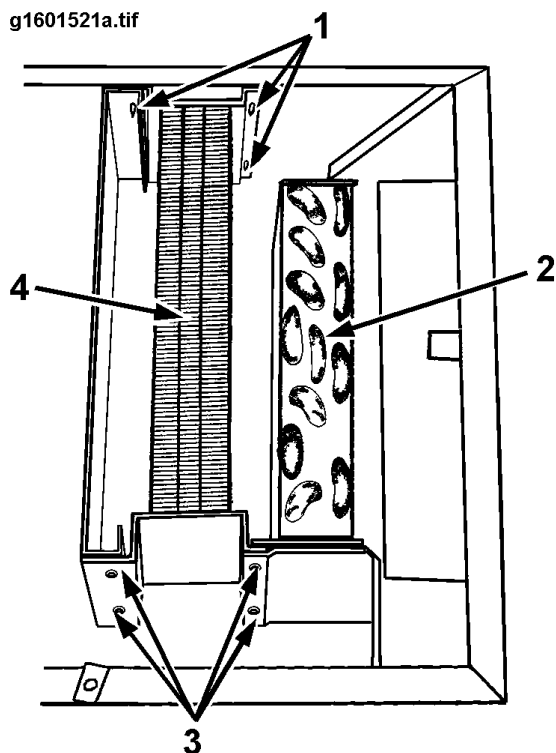

Figure 21 Evaporator Core Mounting Screws
7. Locate and remove the seven evaporator core mounting screws (Figure 21).
2. Install the evaporator core in the Blend-Air unit, and install and tighten the seven mounting screws (Figure 21).